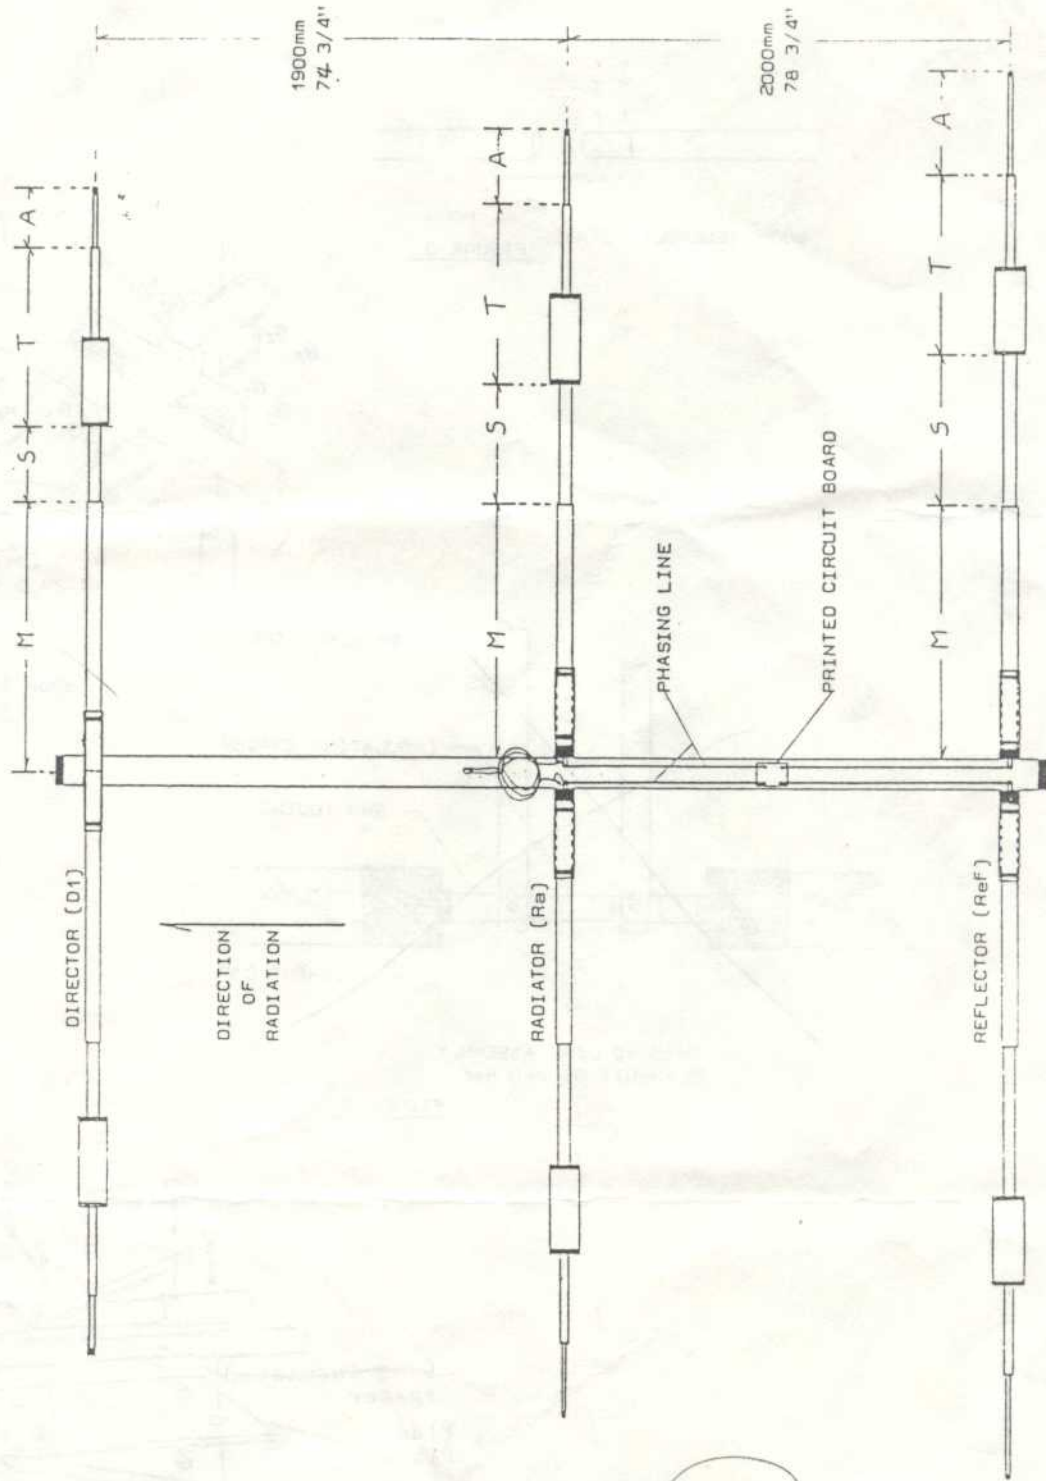

FIGURE 2
3.3 Refer to Figure 2. Using a felt tipped pen, place marks on the boom where the clamps holding the various elements are to be attached. Measurements are made beginning 30mm from the inside edge of one boom end cap.
4.1 Identify parts for elements. All are identified as D1, Ra or Ref. Refer to Figure 2 and Table 1 for element length.